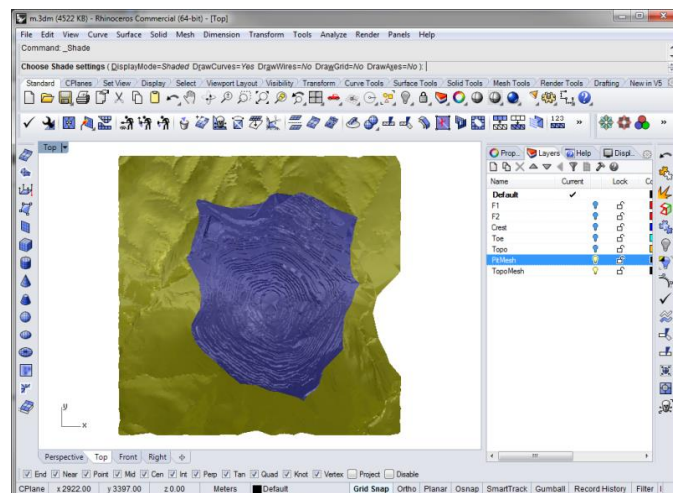

Figure 150: PitMesh and TopoMesh shown shaded in Top view.
4. Unhide the **PitMesh** layer so **both** meshes are visible. Select both meshes and **_ColorizeObjects**. Click **Shade** to see the view below (Figure 150).